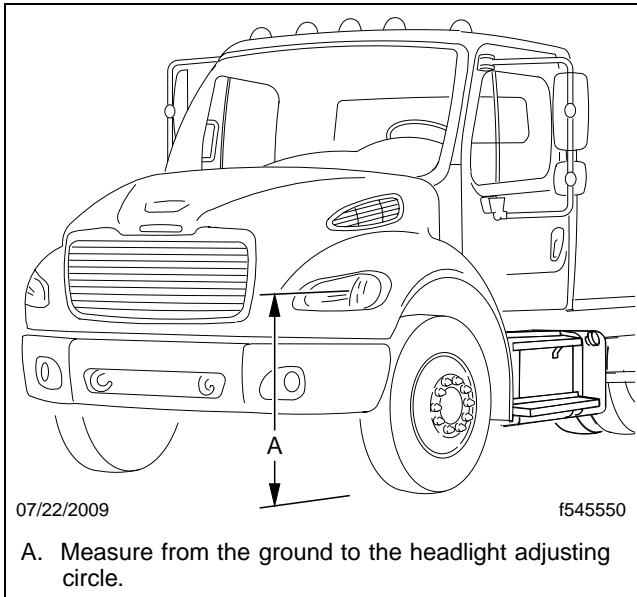
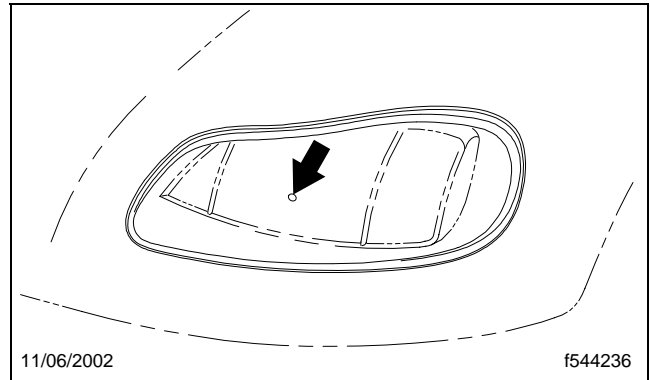

Fig. 1, Headlight Measurement
Fig. 2, Headlight Adjusting Circle
- 3.2 Measure from the ground to the center of the highest headlight lens. See **Fig. 1** and **Fig. 2**. If this height is 54 inches (137 cm) or less, nothing more needs to be done. Clean a spot on the base label (Form WAR259) and attach a completion sticker for FL583 (Form WAR260) to the base label.
20. Check the height of the headlights. Measure from the ground to the center of the highest headlight lens. See **Fig. 1** and **Fig. 2**. The height should be 54 inches (137 cm) or less.